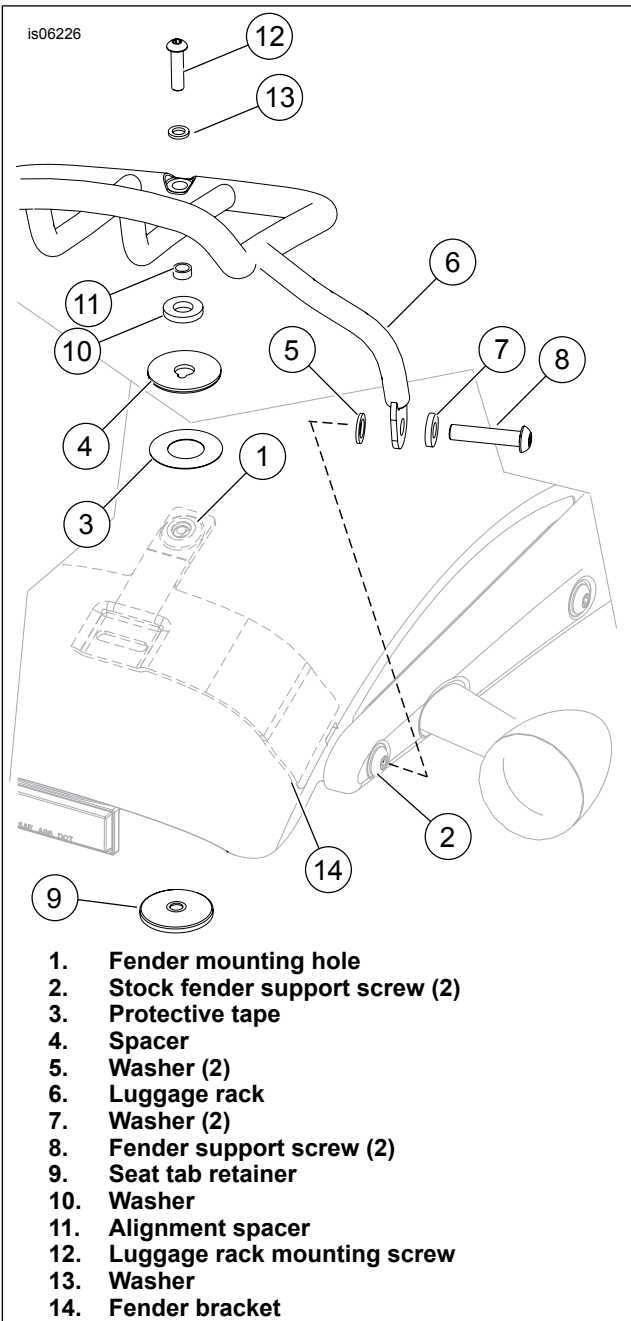

Figure 1. Install Chopped Fender Luggage Rack
1. See Figure 1. Remove stock hardware from the fender mounting hole (1).
2. Remove and discard the stock fender support screws (2).
1. See Figure 1. Remove the adhesive backing from the protective tape (3). Align and install the tape on the fender around the fender mounting hole (1).